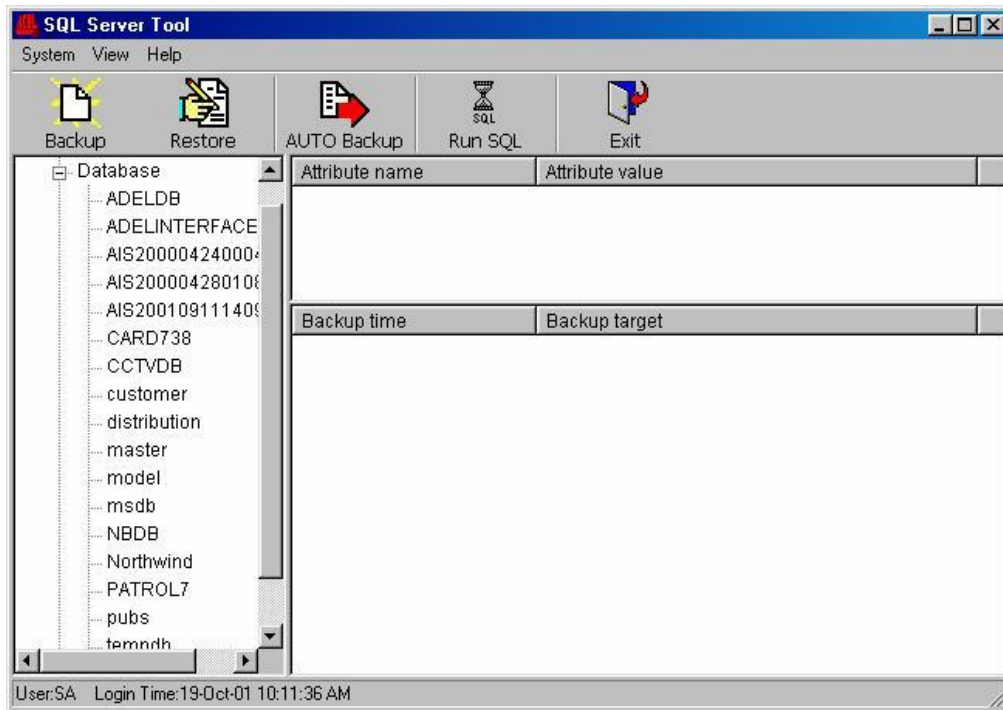

Figure 4-2
- d) Click **OK** button to enter SQL Server Tool window as shown in Figure 4-2.